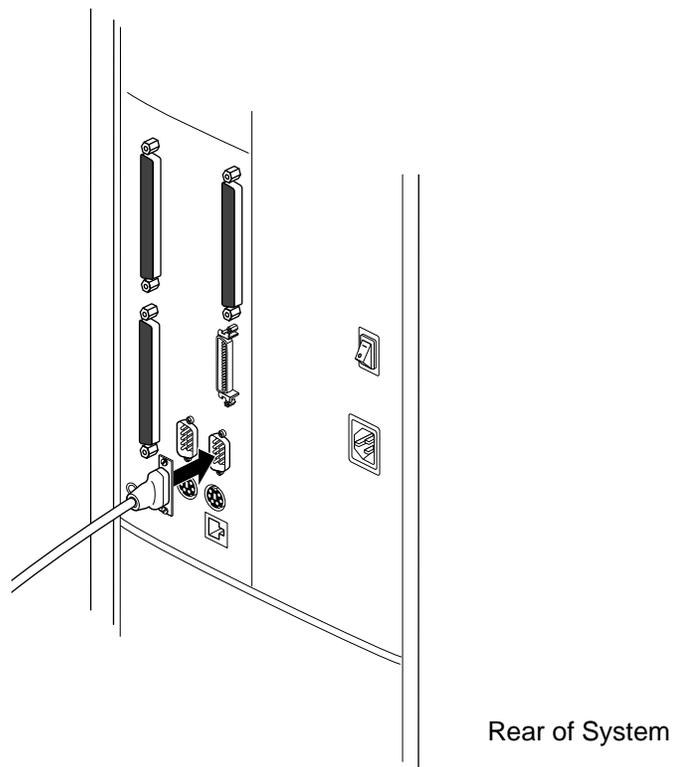

Figure 4-6 Attaching a Serial Cable To Port 1 of the Origin200 Server
3. Attach the DB9 connector to serial port 1, as shown in Figure 4-6.